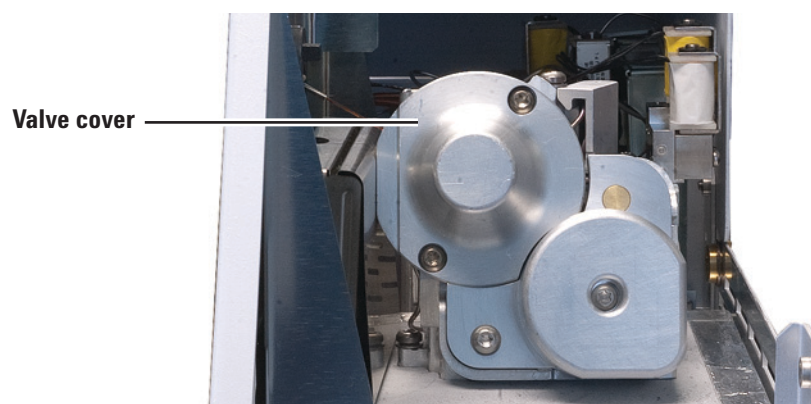

Figure 9 Valve cover
- 4 Completely loosen the two T-20 Torx captive screws on the valve cover (Figure 9).